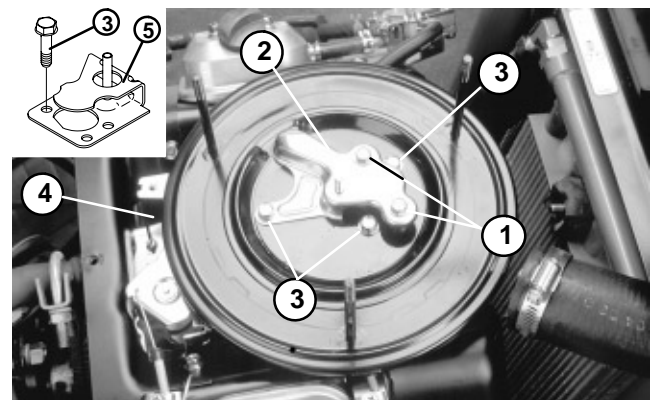

Figure 15
5. Remove two cap screws and three hex head flange screws securing air cleaner base to the carburetor. Remove base carefully from carburetor. Make sure not to damage carburetor gasket. Cover carburetor to prevent dirt and debris from entering (Fig. 15).
4. Remove any covering protecting the carburetor inlet. Install air cleaner base carefully to carburetor. **Make sure not to damage carburetor gasket while installing base** (Fig. 15).
5. Secure air cleaner base and carburetor shield to the carburetor with two cap screws and three hex head flange screws (Fig. 15).